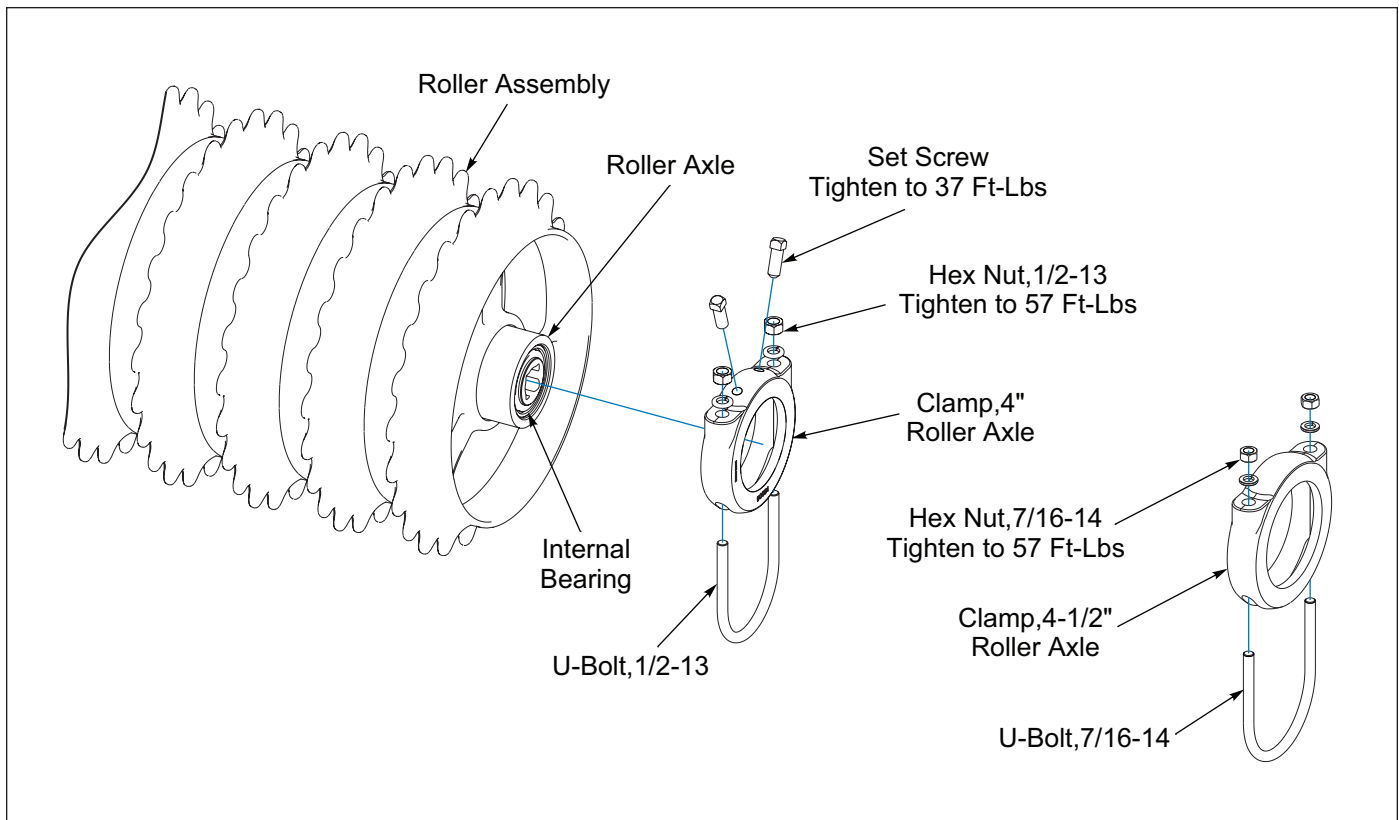

Figure 4-1: Maintenance Roller Bearing Clamp End
4. Tighten the Clamp U-Bolt evenly to 57 Ft-Lbs. **See Figure 4-1. U-Bolt *MUST BE* tightened before the Set Screws are tightened.**